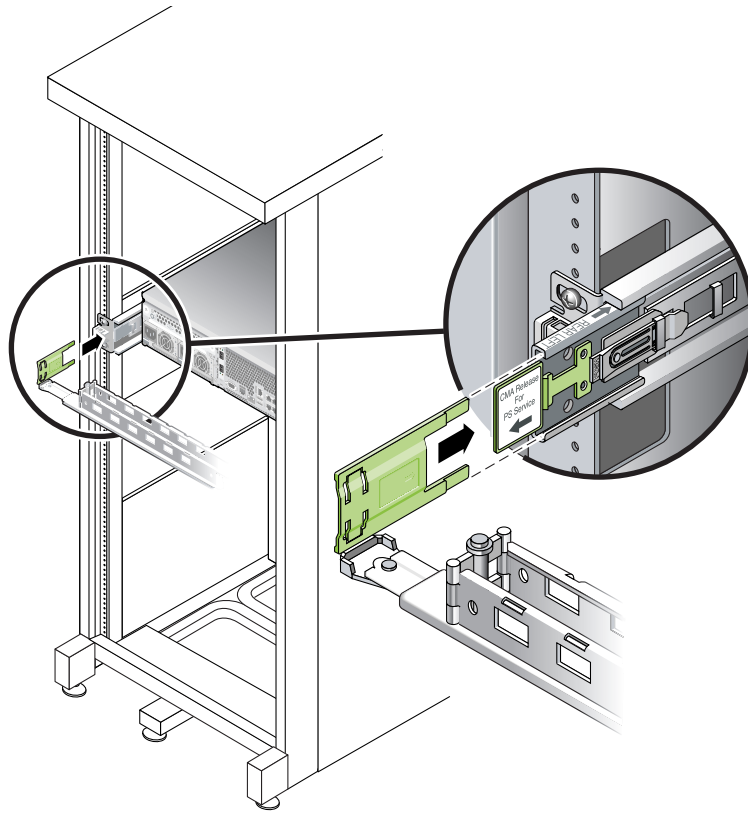

FIGURE 2-24 Mounting the Left Side of the Slide Rail
4. Insert the hinged plastic connector at the left side of the CMA fully into the CMA rail extension (FIGURE 2-24).